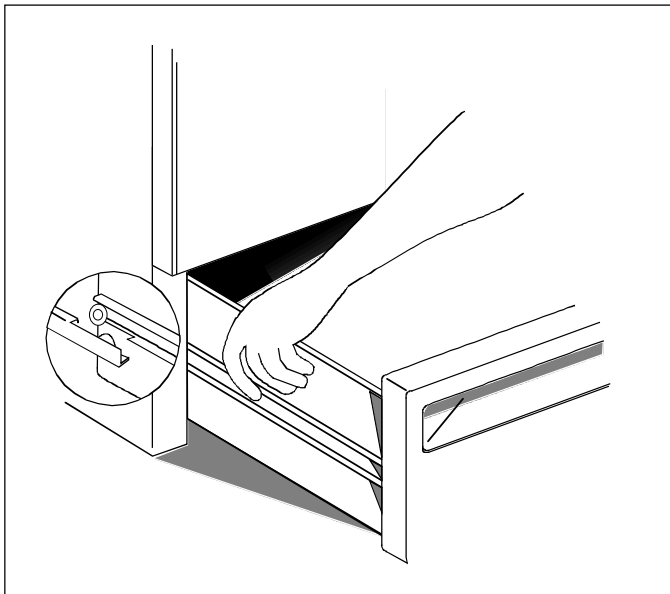

Figure 24
2. See Figure 24. Grasp drawer sides near back of drawer.